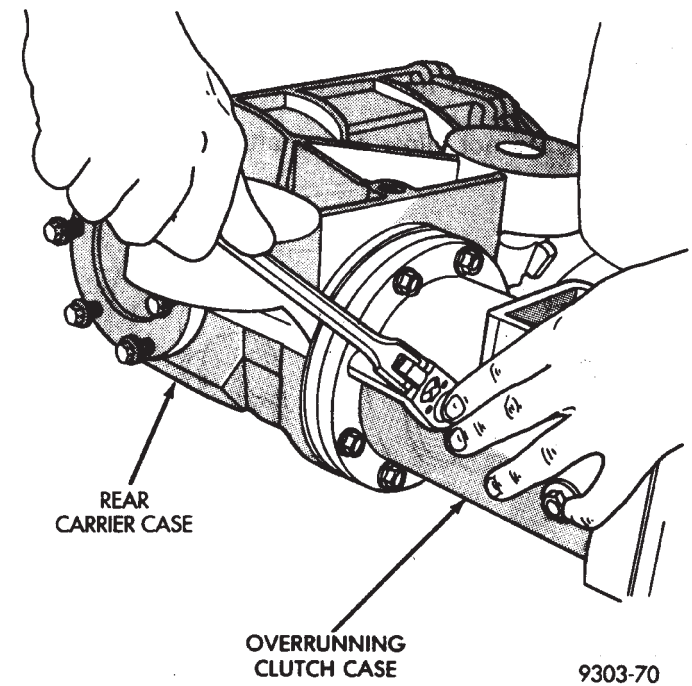

Fig. 6 Overrunning Clutch Case to Rear Carrier Bolts
- (1) Remove rear drive line module assembly.
- (2) Remove overrunning clutch cover assembly.
- (3) Drain fluid from overrunning clutch case.
- (4) Remove overrunning clutch case to rear carrier case bolts (Fig 6).